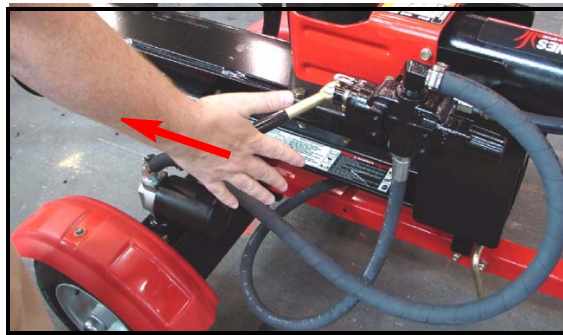

FIGURE 2
7. Push the control valve handle to the "FORWARD" position and hold, the splitting wedge (or ram) should be extending. See Figure 2.